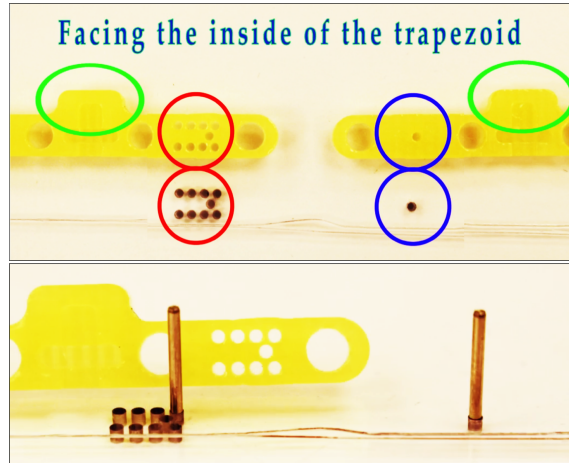

Figure 54: Positioning of the internal frames.
Step 5: Place the internal frame on the baseplate. The orientation and the location of each piece of frame is defined by matching the shape of the grouped holes present on the frame and on the baseplate.(Fig. 54). The flanges should always face the inside of the trapezoid.